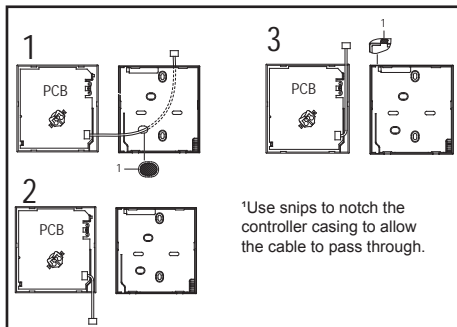

Figure 8. Select Cable Route
2. Select the cable exit route from the back of the controller. See figure 8.